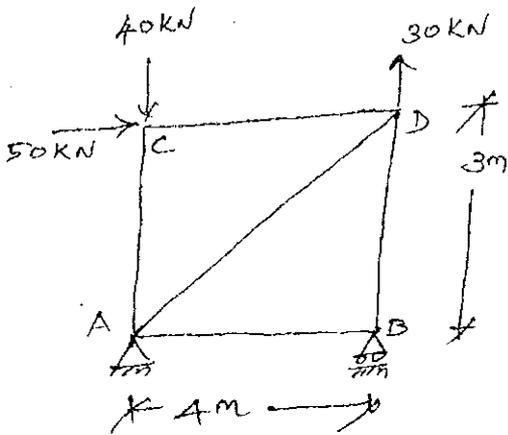

FIG. 1
22 (a) Analyze the truss shown in fig.1 (refer page 4 of 4) using method of joints. (16)